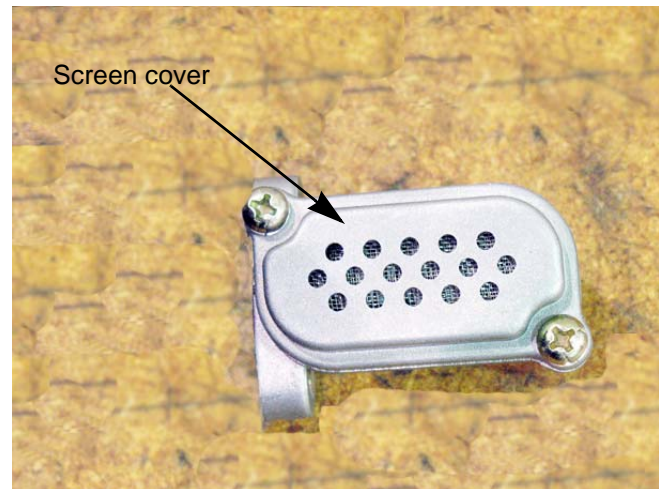

Figure 8.7
2. Remove the two screws that secure the screen cover using a #2 Phillips screw driver. See Figure 8.7.